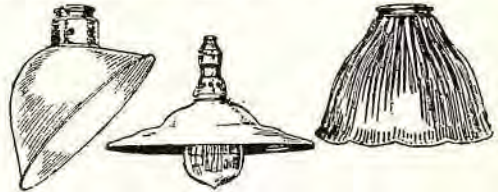

Fig. 9. Three types of reflectors for lighting a garage. Holophane type of D'Olier steel type; 12" diffuser; Intense type, D'Olier.
Artificial illumination of the garage proper is supplied by five 100-watt Mazda lamps, equipped with 12" steel diffusers with white enamel finish (Fig. 9).
The repair shop requires even more elaborate lighting facilities than the garage space. It is therefore equipped with five 60-watt lamps and two 25-watt lamps, all of which are of the Mazda (tungsten) type. Three 60-watt bulbs (W), fitted with Holophane D'Olier steel reflectors (Fig. 9), and dropped from the ceiling to illuminate any part of the car being worked on, while two 25-watt lamps (W1) shown in the shaded circles (Fig. 1, page 665), are fitted with the same sort of reflector and are so located as to be useful in seeking parts stored on the stock shelves (S1).